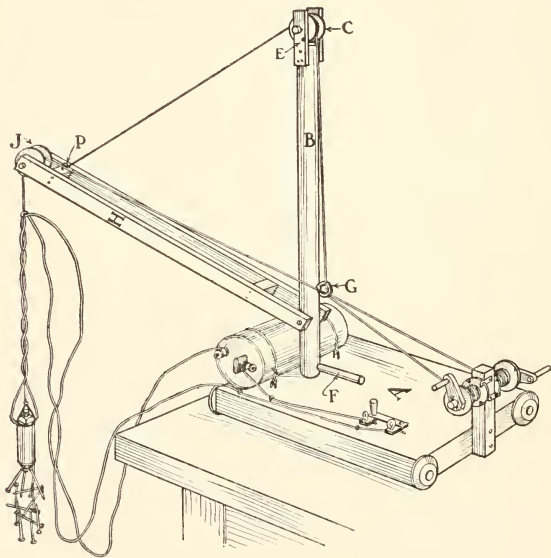
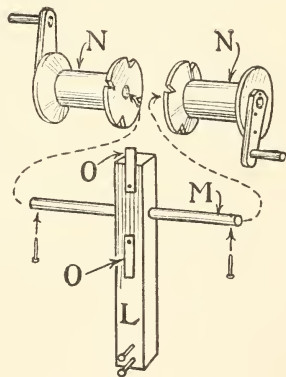

FIG. 176. — An Electro-Magnet Derrick.
FIG. 186. — Detail of Derrick Windlass.
**The Electro-Magnet Derrick** shown in Fig. 176 will hoist nails and other small pieces of hardware from the floor to a table top, and as the *boom*, or arm, can be swung from side to side, and raised and lowered, loads can be moved from place to place in the same way as with large derricks. The toy derrick may be used for loading and unloading toy wagons, carts, and trains of cars, provided, of course, you use iron or steel of some sort for your loads. It is easy enough to get nails, brads, tacks, and odd pieces of hardware for the purpose. The model from which Fig. 176 was made has lifted a bunch of two hundred and eighty-four brads  $\frac{3}{8}$  inch long. By using smaller brads, or tacks, a much larger number could be lifted.
Instead of using a separate base, the switch can be mounted as shown in Fig. 176, upon the base of
**The Derrick.** Cut the base about 8 inches wide and 10 inches long (*A*, Fig. 176). The *mast* (*B*) is a piece of broom-handle or curtain-pole 16 inches long, and fits loosely in a hole bored in the base. Figure 183 shows a detail of the mast. The *pulley* upon its upper end (*C*) is made of two spool-ends nailed together (Fig. 184), and it turns upon the axle *D*, which slips through holes in the *plates* *E* nailed to the end of the mast.
The **Windlass** for raising the derrick boom, and for hoisting the loads, is shown in detail in Fig. 186. Bore a hole through upright *L* for the axle *M* to stick through, and cut axle *M* enough smaller than the spool drums *N* so they will turn easily. Fasten a crank and handle to one end of each spool, and drive a brad through each end of the axle to prevent the drums from sliding off. Cut four notches in the inner flange of each spool, as shown, and pivot the catches *O* to the post *L*, in the positions indicated, so they may be thrown into the notches to lock the windlass (Fig. 176).
The **Hoisting Cables** should be made of strong cord. Fasten one end of the cable for raising the boom to a nail (*P*, Fig. 176), and run this cord up and over the mast pulley, then down through screw-eye *G* and over to one drum; tie it securely to the drum so it will not slip around. The other cable should be fastened between the nut and
Figure 176 shows how the dry-cell may be strapped to the base board in front of the mast, and how the wires that connect the electro-magnet, switch, and cell should be twisted around the hoisting cable, part way, and the remainder of their length allowed to hang. Be sure to cut the wires long enough to reach from a table-top down to the floor. Use flexible wire if you can get it.